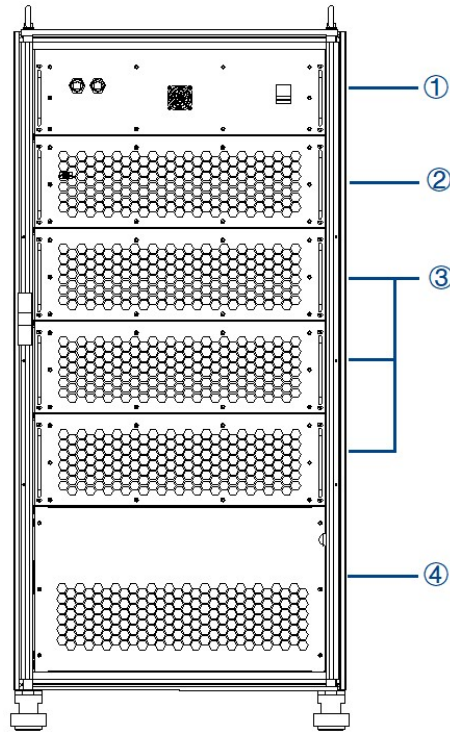

Figure 1-4 Internal structure
①	RS485 interface	Standard configuration, is used for remote control.
②	LAN interface	Standard configuration, it is a communication interface, and used for remote control.
③	TTL	Standard configuration, for users to observe the trigger signal after connecting with the oscilloscope
④	ATI interface	a. Analog control interface-Phase A b. Analog control interface-Phase B c. Analog control interface-Phase C Optional, analog control interface (-ATI option)
⑤	Product brand	The input / output configuration of the product is marked.
As shown in Figure 1-4, take EAC-4Q-KS 45-300-50 as an example, from top to bottom, the internal modules of EAC-4Q-KS series are: ① control box layer, ② ③ module layer, ④ component layer, wiring layer and other interface layers.